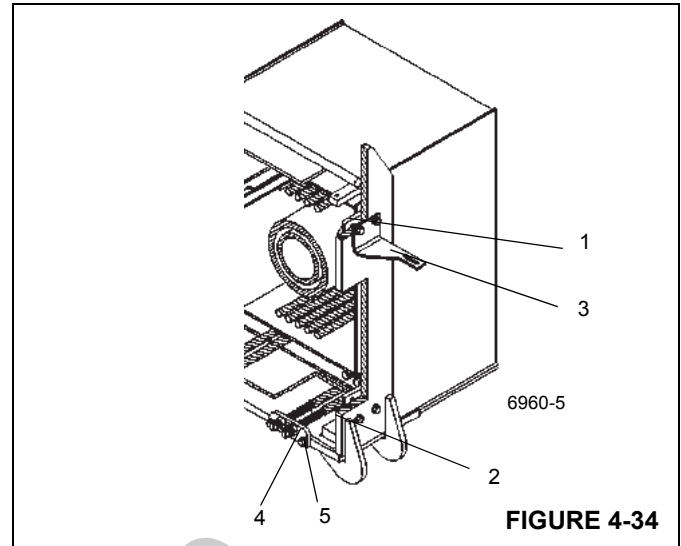

FIGURE 4-34
2. Install base section front top (1) and bottom (2) side wear pads with two screws each (Figure 4-34). On top left side attach mounting angle (3) with both wear pad screws.
3. Attach outer mid retract cable anchor plates (4) to front of base section with two capscrews (5) each (Figure 4-34).